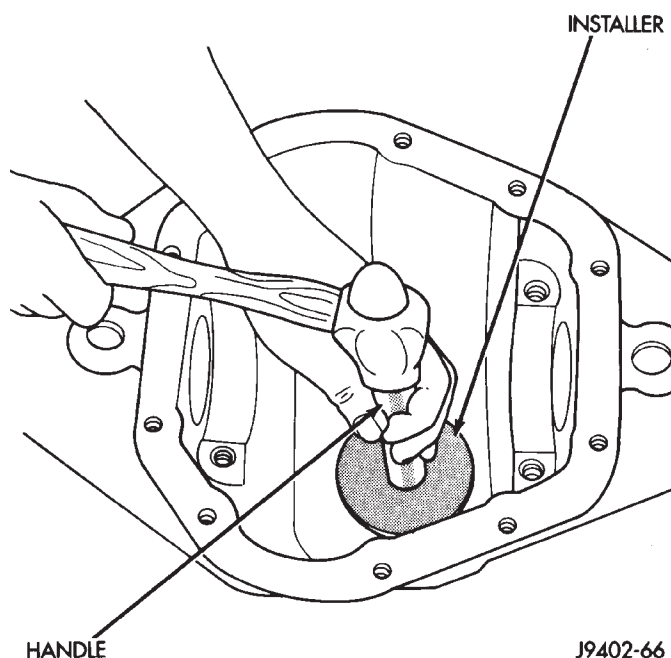

Fig. 31 Pinion Rear Bearing Cup Installation
- (1) Install the pinion rear bearing cup with Installer C-4308 and Driver Handle C-4171 (Fig. 31). Ensure cup is correctly seated.